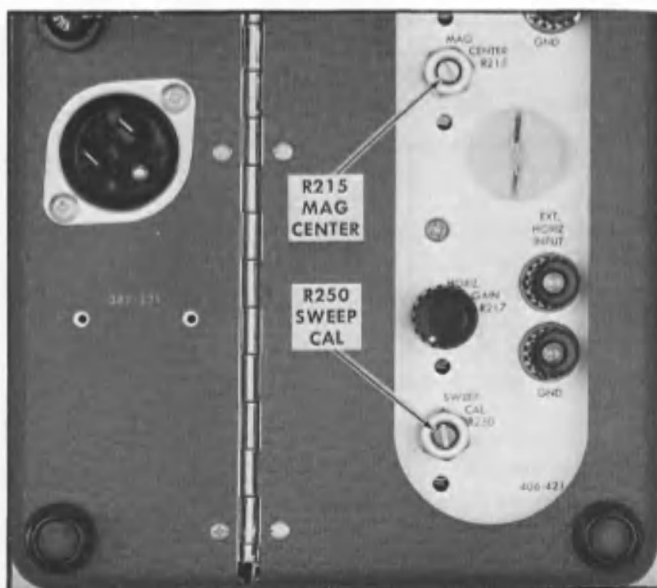

Fig. 5-16. Location of Sweep Cal adjustment (rear panel).
e. ADJUST—SWEEP CAL adjustment, R250 (see Fig. 5-16), for one marker each division. The second and tenth markers must coincide exactly with their respective graticule lines (reposition the display with the HORIZONTAL POSITION control if necessary).
f. ADJUST—MAG CENTER adjustment, R215 (see Fig. 5-16), to position the middle marker to the center vertical line.